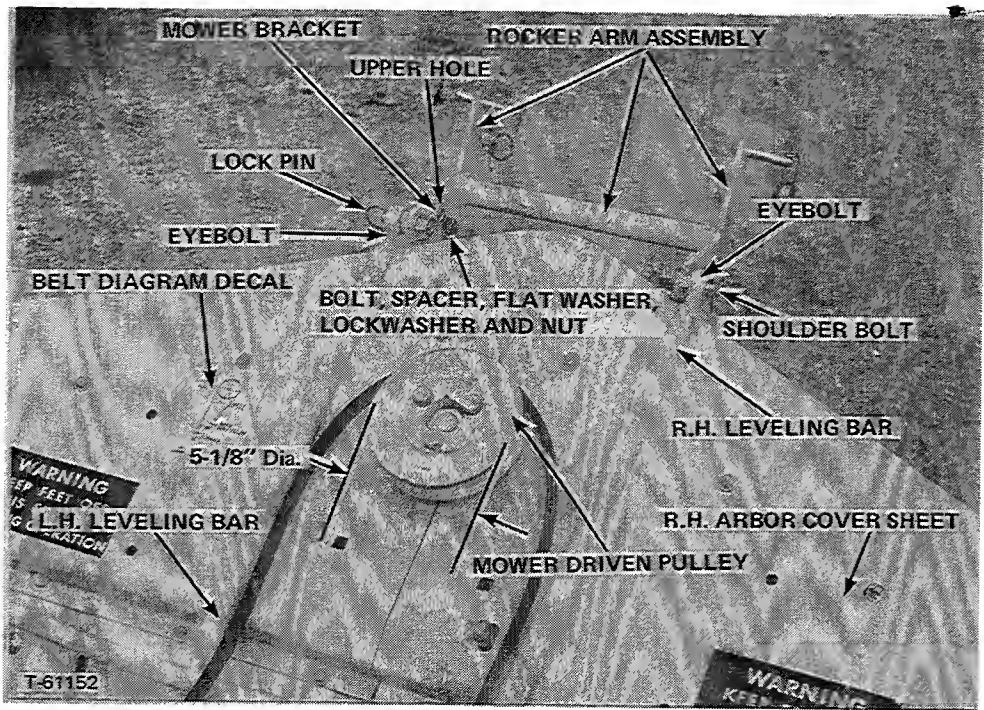

FIGURE 9 - 42" Mower
- Bolt the rocker arm assembly in the lower holes of the mower brackets with two bolts, spacers, flat washers, lockwashers and nuts as shown in Figure 9.
- Place shoulder bolts into rear holes of the rocker arm assemblies from the outside and install the eyebolt ends of the right hand and left hand leveling bars on the plain end of shoulder bolts and secure with lock pins as shown in Figure 9.
- Install the 5-1/8" diameter mower driven pulley on the mower drive hub (Figure 9).
- Place the belt diagram decal on the left hand arbor cover sheet (Figure 9).